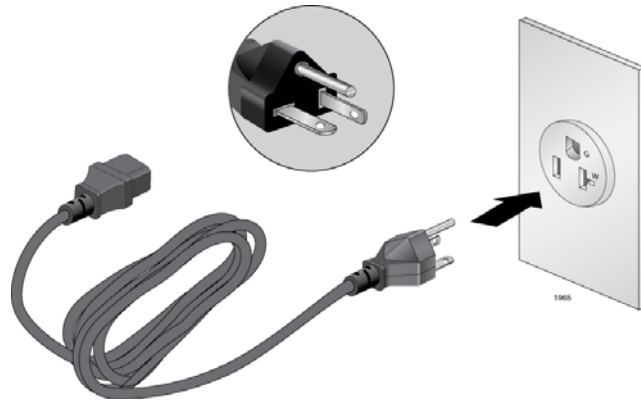

Figure 30. 100 - 125 VAC 125 V NEMA 5-20 Plug and Receptacle
- The power cords provided with the AT-SBxPWRSYS1, AT-SBxPWRSYS2, and AT-SBxPWRPOE1 Power Supplies for 100-125 VAC installations have 20 Amp, 125 V NEMA 5-20P plugs. The plugs are only compatible with NEMA 5-20R receptacles. See Figure 30 on page 89.